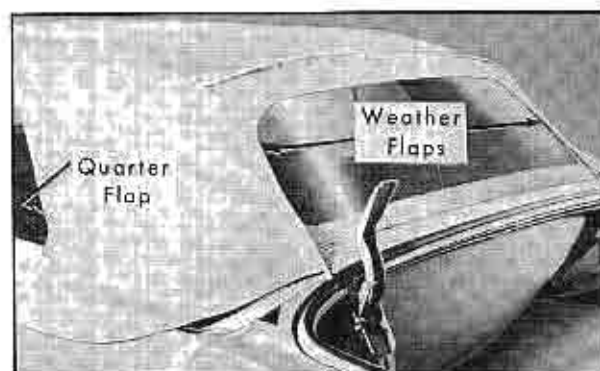

Fig. 3-111 Positioning Top Trim on Framework
9. Position the top trim on the framework and center the assembly both fore and aft and side to side. Positively locate top by engaging the weather flaps at the back curtain and by cementing the quarter flaps to the side roof rails, Fig. 3-111.
10. Stay-tack the top of the rear bow, as shown in Fig. 3-111, and align and stay-tack the seams on the outer ends of the rear bow.